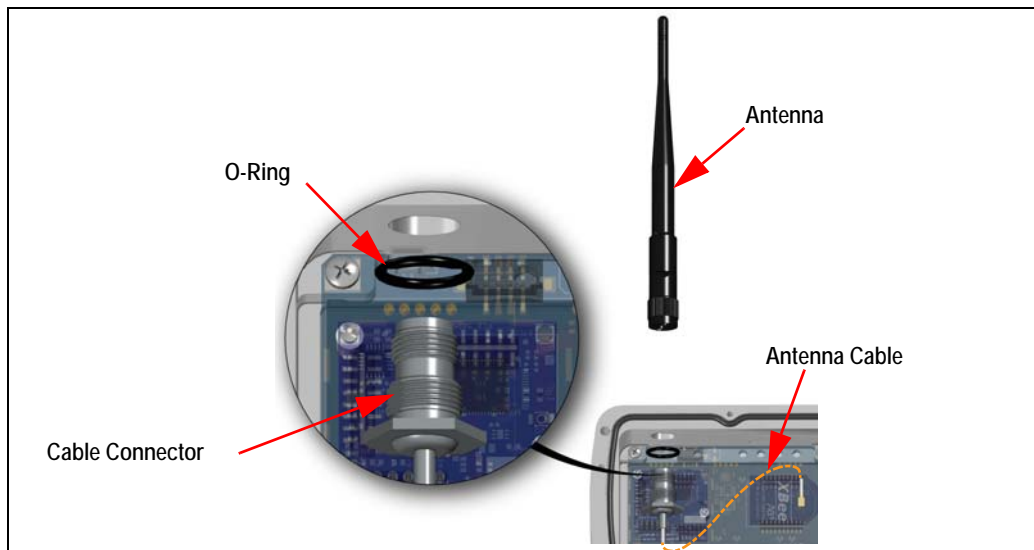

Figure 3-7. Replace Antenna
4. Align new card with the connection. Ensure it is in line with the correct holes. See Figure 3-7.